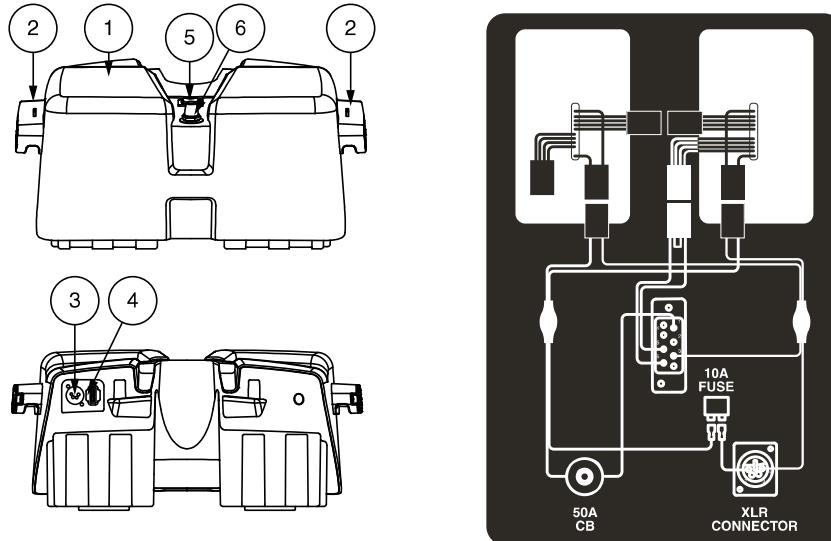

Figure 4. Battery Pack
Your vehicle is equipped with an innovative, easy-to-remove battery pack. A handle on the top of the battery pack makes it easy to lift the pack off of the vehicle with one hand. Depending on the configuration of your vehicle, the battery pack contains either one or two rechargeable batteries, and may contain the charger power cord receptacle, the main circuit breaker (reset button), and the battery pack fuse. See figure 4.
When the voltage in your vehicle's batteries becomes low or the vehicle is heavily strained because of excessive loads or steep inclines, the main circuit breaker may trip to protect the motor and electronics from damage. See figures 4.
The fuse located under the battery pack protects the tiller console electronics. See figure 4. In the event any component of the tiller console is not responding, check this fuse. See VII. "Basic Troubleshooting" for fuse replacement instructions.
**NOTE:** *Ensure that the battery disconnect switch is in the “on” position (-) prior to charging your vehicle’s battery. The battery will NOT charge if the battery disconnect switch is in the “off” position (O). See figures 4 and 9.*
**NOTE:** Ensure that the battery disconnect switch is in the “on” position (-) prior to charging your vehicle’s battery. The battery will NOT charge if the battery disconnect switch is in the “off” position (O). See figures 4 and 9.
**WARNING!** When faced with an emergency situation, the batteries can be quickly disconnected by moving the battery disconnect switch to the “off” position (O). Use caution. Be advised that turning off power to the vehicle may cause the vehicle to stop abruptly. To release the emergency stop and restore driving capability to vehicle, move the battery disconnect switch to the “on” position (-). See figures 4 and 9.
- Ensure that the fuse on the battery pack is in working condition. See figure 4.
**NOTE: Ensure that the battery disconnect switch is in the "on" position (-) prior to charging your vehicle's battery. The battery will NOT charge if the battery disconnect switch is in the "off" position (O). See figures 4 and 9.**